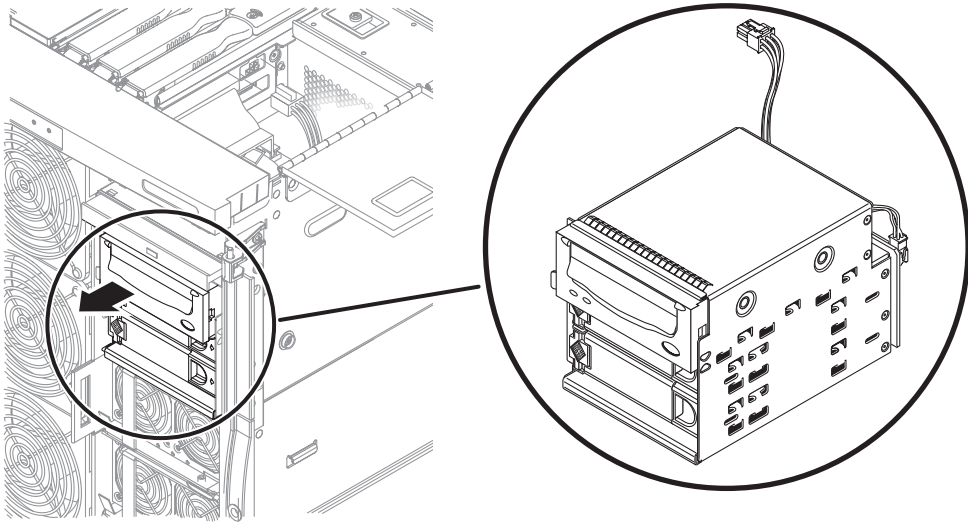

FIGURE 5-10 Removing the Removable Media Module
13. Remove the removable media module. Make sure the connectors and cables do not catch on anything (FIGURE 5-10).